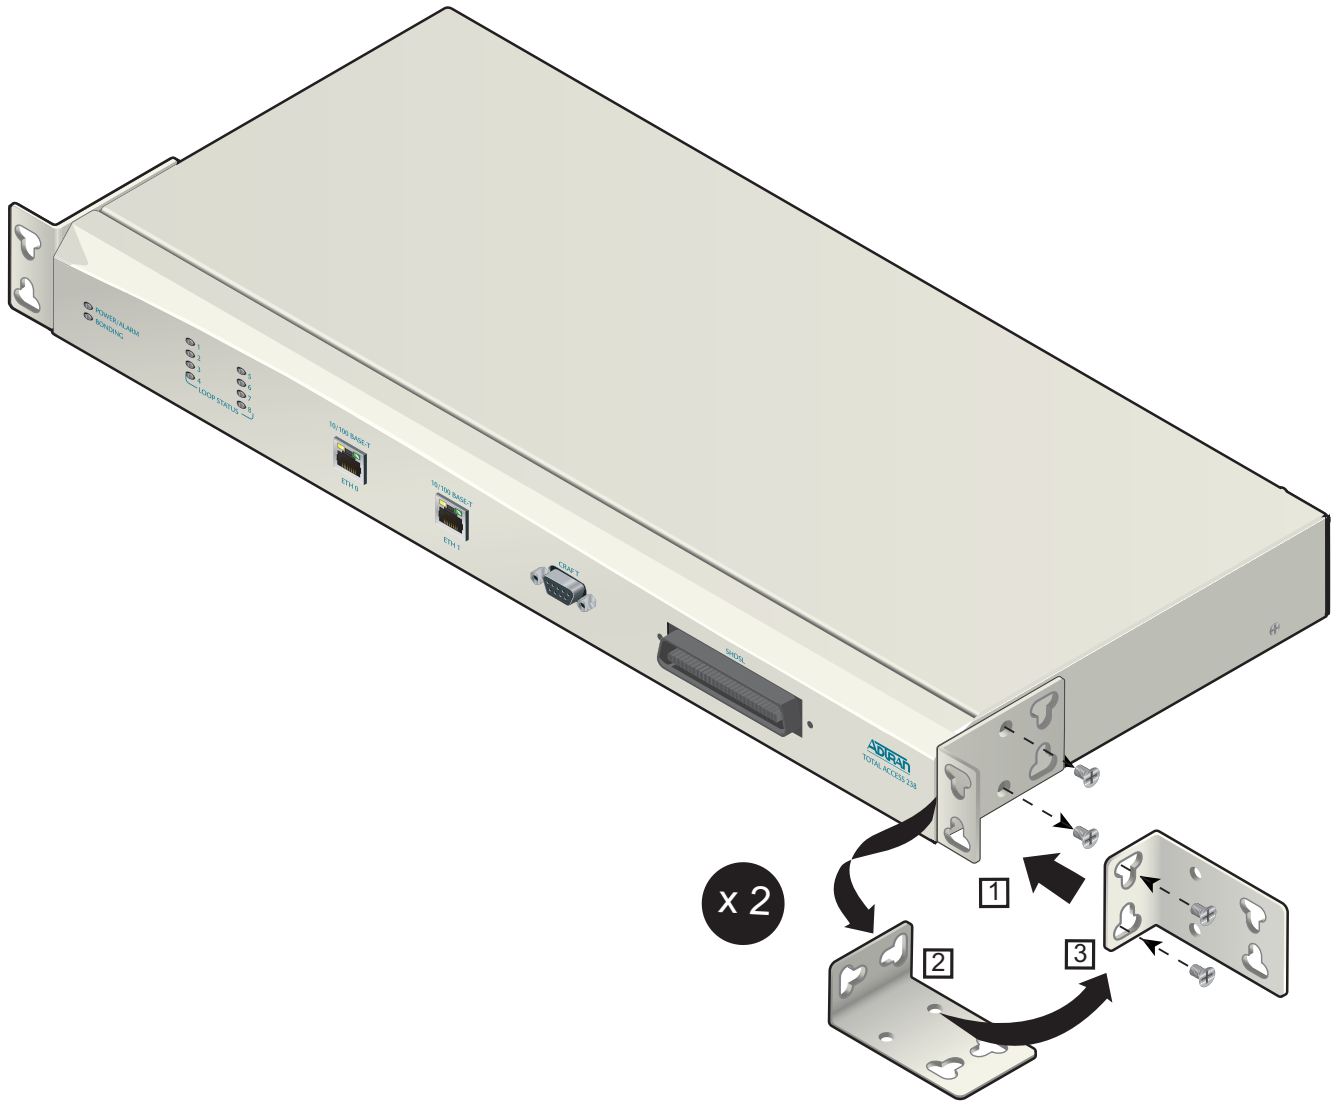

Figure 7. Repositioning the Brackets for 23-inch Racks
1. Remove the mounting brackets. Attach mounting brackets so that the smaller portion of the bracket attaches to the side of the chassis (Figure 7).